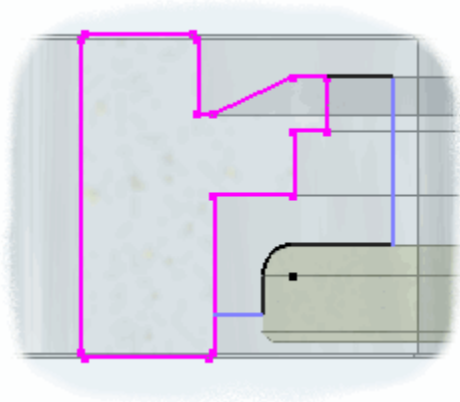

Figure 9: Completed Sketch.
3. Use the Line tool to complete the sketch shown in Figure 9.